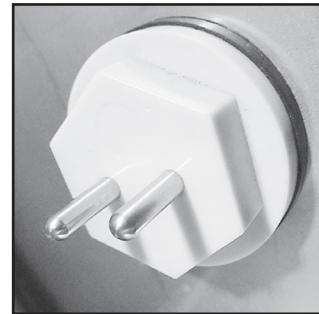

Fig.11a -
- Tank sensor is located on the right-side of machine, Fig.11a.